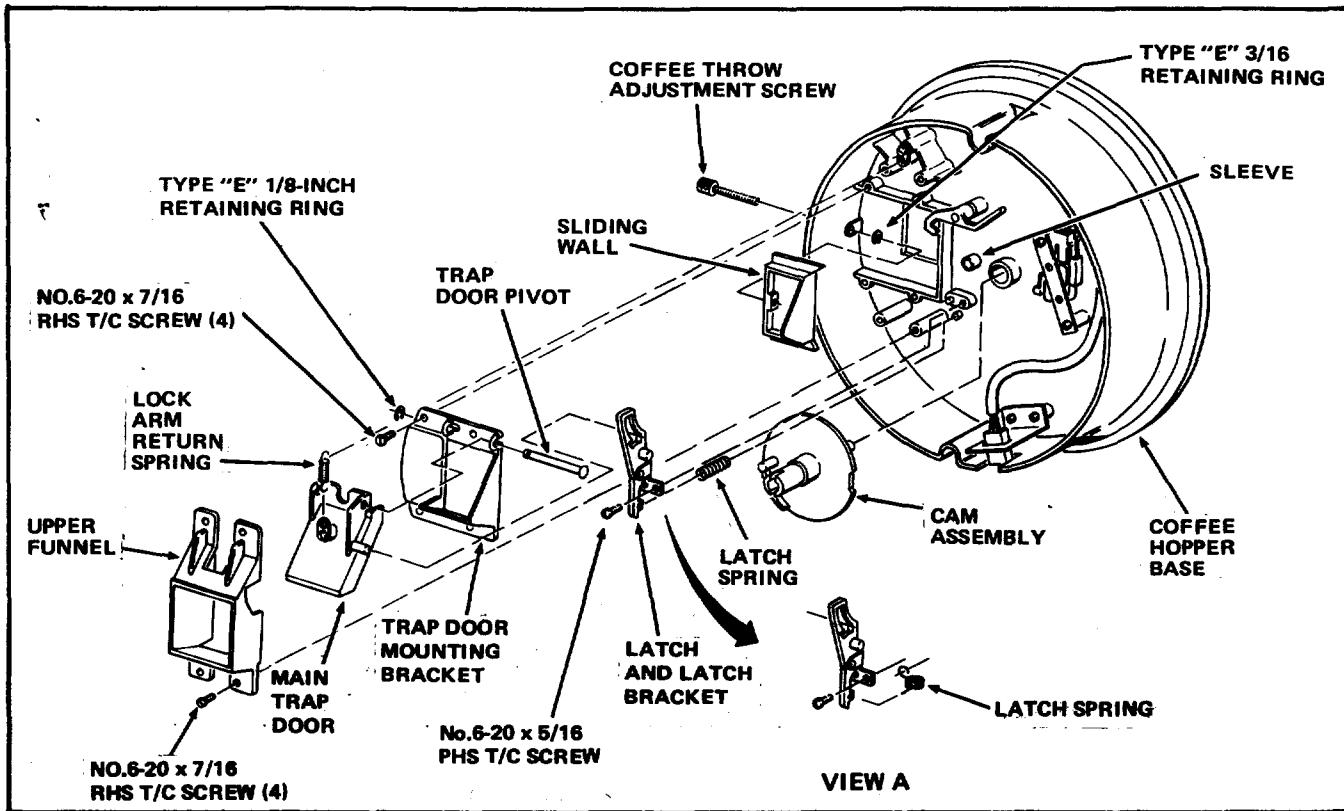

FIGURE 3
18. Remove the Sliding Wall and Coffee Throw Adjustment Screw from the Coffee Hopper Base by unscrewing the Adjustment Screw from the Sliding Wall. See Figure 3.
19. Remove the Latch Spring from the Coffee Hopper Base. See Figure 3 for early style and View A of Figure 3 for later style.
20. Remove the Latch and Latch Bracket from the Coffee Hopper Base by removing one No.6-20 x 5/16 Pan Head Thread Cutting Screw. See Figure 3.
The Sleeve on the Boss under the Cam Assembly is loose and may fall off. See Figure 3.
21. Remove the Cam Assembly from the Coffee Hopper Base. See Figure 3.